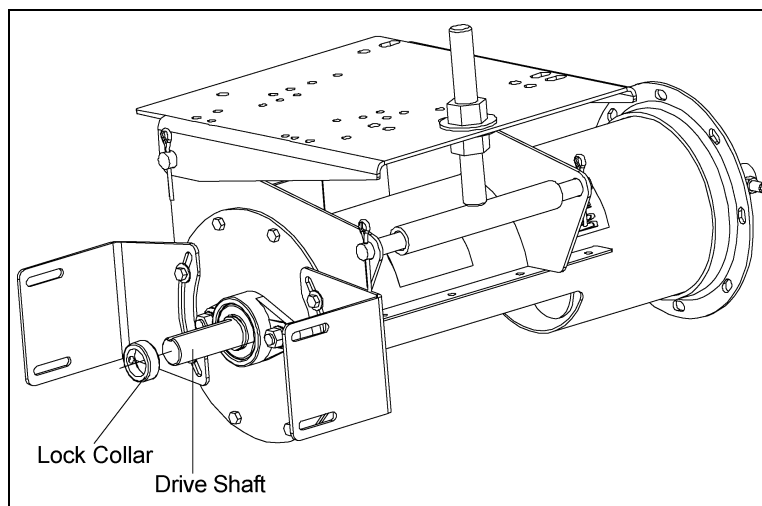

Figure 4N
- A. Slide the Lock Collar over the Drive Shaft, positioning it against the bearing. Do not tighten the lock collar at this time as it will be tightened later in the assembly. (See Figure 4N)